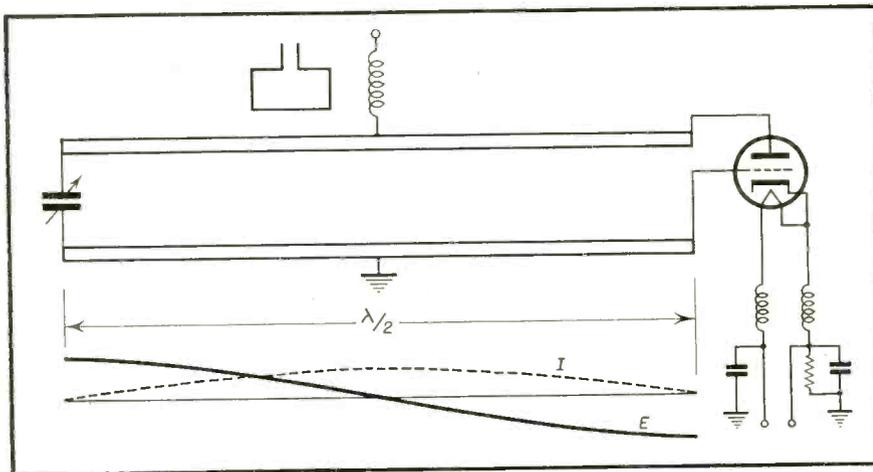

Fig. 3. Two wire parallel line tank circuit.
*Figure 3* is a re-arrangement of the circuit as it might be using a two wire parallel line as a tank circuit; how-